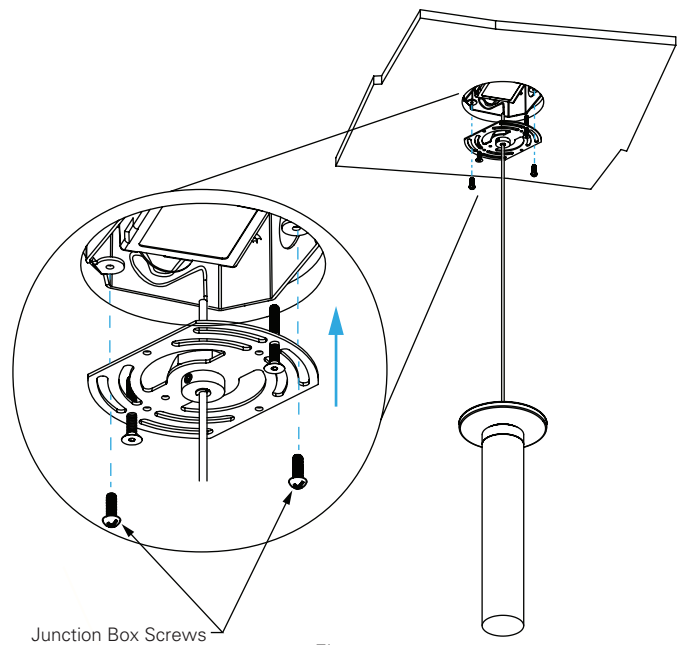

Figure 7.
- Attach the universal crossbar to the junction box using the screws supplied with the junction box (See Figure 7).